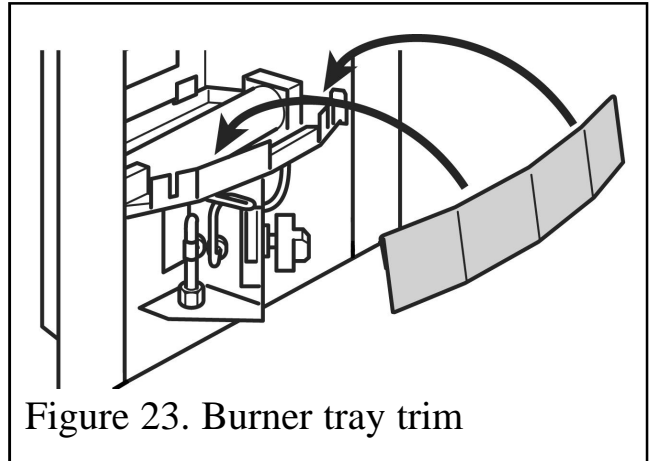

Figure 23. Burner tray trim
1. Fit the burner tray trim over the front rim of the burner tray. Push the trim fully down (See figure 23).